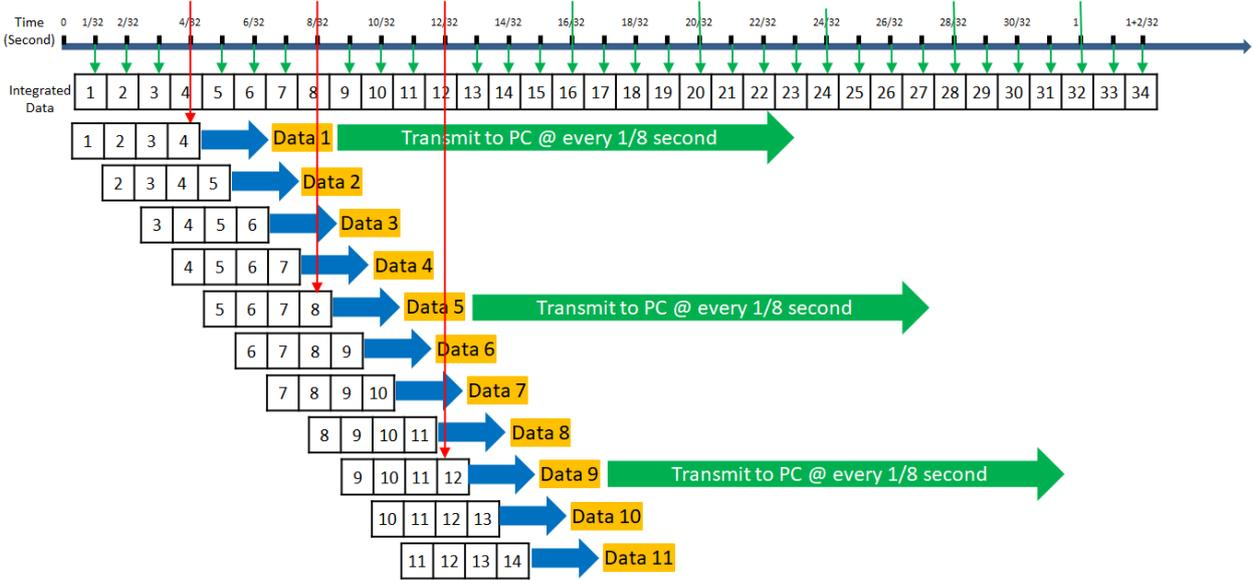
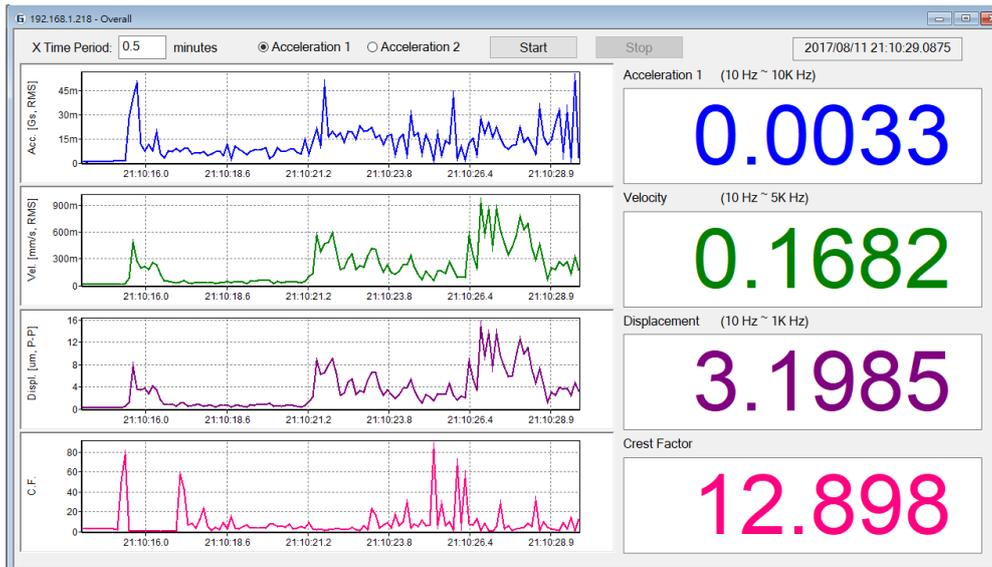

Figure4.11 Integration time: 1/8 second, Average mode: Off
Figure4.12 Vibration value varies dramatically @ Integration time: 1/8 second
- The integration time and average mode can be selected to smooth the vibration values. If the integration time is set to 1/8 second and average mode off the vibration value will vary when the machine vibrates dramatically. Longer integration time will get a stable reading. Figure4.9, Figure4.10, Figure4.11 and Figure4.12.